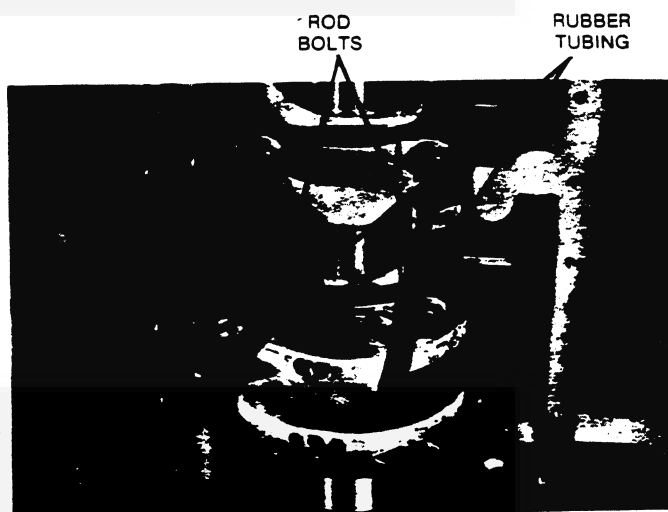

FIGURE 25. REMOVING PISTON ASSEMBLY
5. Push rod and piston assembly out through top of cylinder using a hammer handle. Avoid scratching crankpin and cylinder wall when removing piston and rod (Figure 25). Protect crankshaft rod journals by placing a piece of rubber tubing over rod bolts during removal.